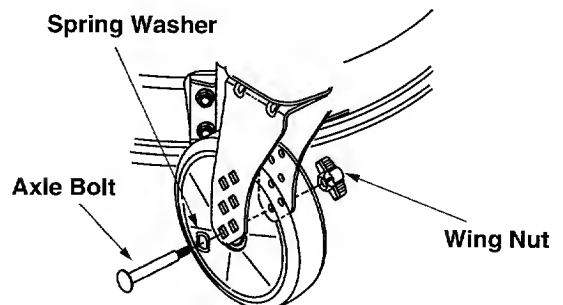

Figure 17
- To adjust, remove the wing nut from the axle bolt. See Figure 17.
- With the spring washer on the axle bolt, reinsert the axle bolt in the square hole desired, through the wheel assembly. See Figure 17.